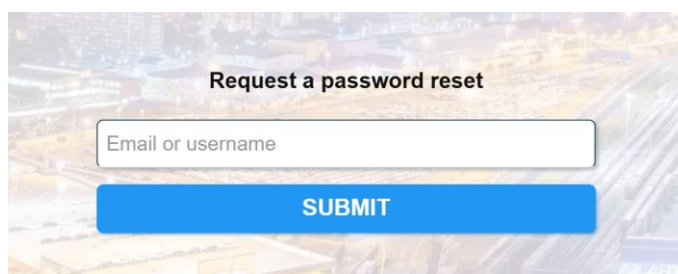

Figure 7 Request Password reset
2. The Password Reset Request window will appear (see Figure 7)